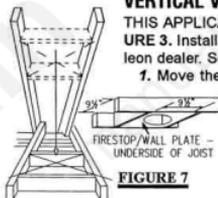

FIGURE 7
2. Hold a plumb bob from the underside of the roof to determine where the opening in the roof should be. **FIGURE 7.** Cut and frame a $9\frac{1}{2}$ " opening in the roof to provide the minimum 1" clearance between the fireplace pipe and any combustible material. **DO NOT FILL THIS SPACE WITH ANY TYPE OF MATERIAL.** Nail headers between the joists for extra support. A firestop/wall plate must be placed on the bottom of each framed opening in a roof or ceiling that the vent pipe passes through.